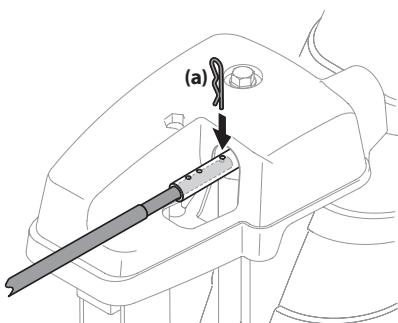

Figure 3-11
Follow this procedure to manually change the chute direction on units equipped with an electric chute directional control joystick and manual chute directional control rod only. See Figure 3-11.
- Remove cotter pin (a) from either of the holes furthest from the chute assembly on chute rotation assembly. See Figure 3-11.
- Push in chute control rod until the hole in it lines up with the third hole in chute rotation assembly. See Figure 3-11.
- Reinsert cotter pin (a) through this hole and chute control rod as shown in Figure 3-11.